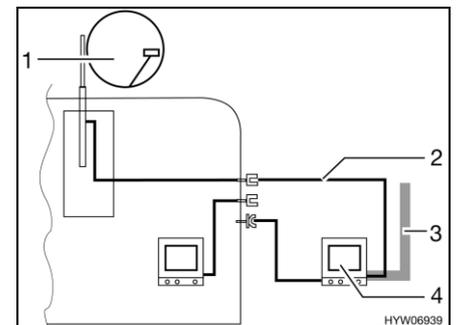

Fig. 110 TV in the awning
- TV inside the awning (Fig. 110,4): Connection to roof antenna (Fig. 110,1) with connection cable (Fig. 110,2)
- TV inside the awning (Fig. 110,4): Connection to external antenna (Fig. 110,3)